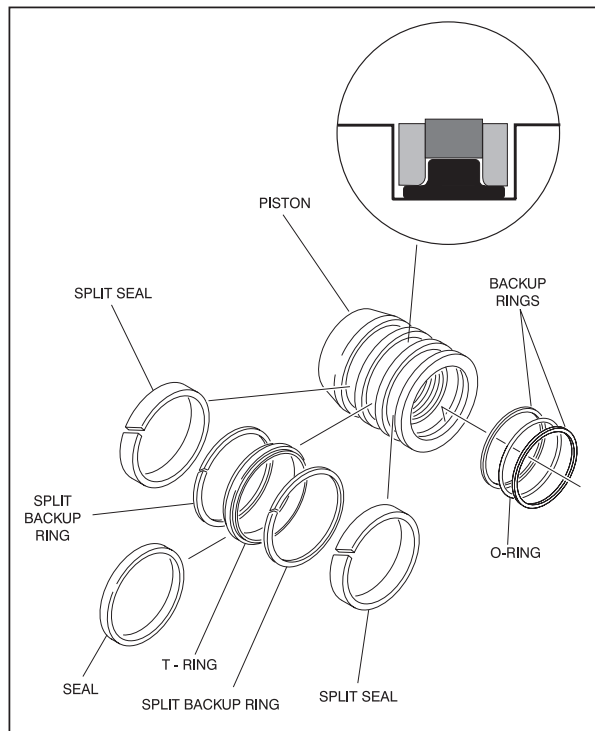

Figure 2-11. Piston Seal Kit Installation
NOTE: The backup rings for the solid seal have a radius on one side. This side faces the solid seal. (See magnified insert in (See Figure 2-11.)) The split of seals and backup rings are to be positioned so as not to be in alignment with each other.
9. Place new guide locks and seals in the applicable outside diameter grooves of the cylinder piston. (See Figure 2-11.)